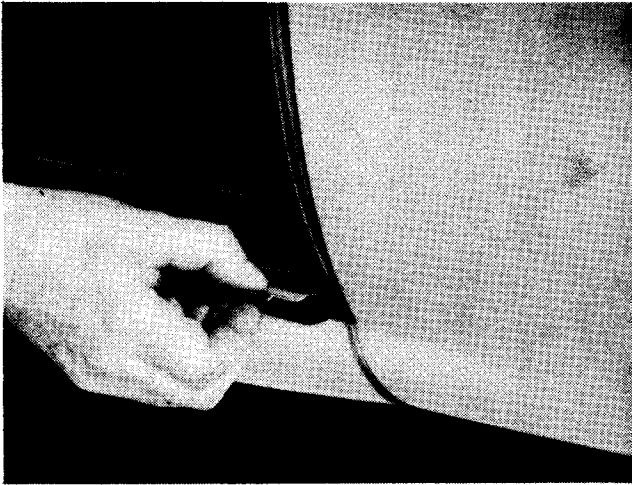

FIG. 3
4. Apply cement to the lower weather strip channel and new weather strip. Allow it to dry until it is tacky. Start the new weather strip into the channel making sure that the lip (Fig. 3) points upward. Fit the end of the weather strip against the end of the channel. Install the weather strip, being careful not to stretch it. Then, cut the end of the weather strip, if necessary, so that it will fit snugly against the other end of the channel.